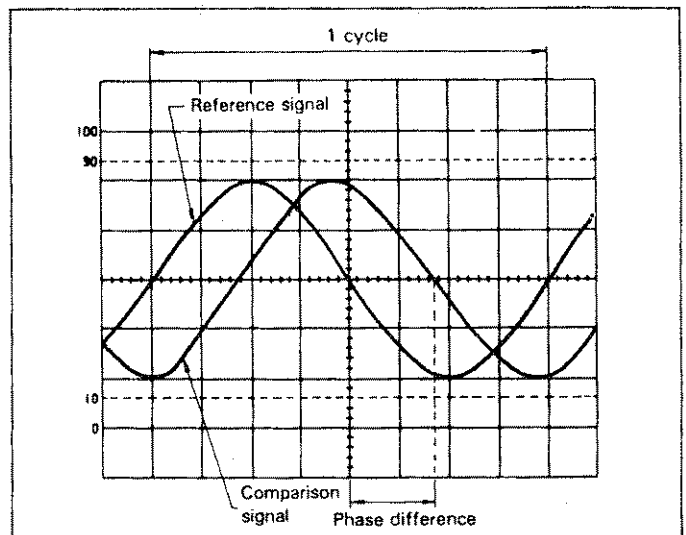

Fig. 15. Phase Difference Measurement.
(Refer to Fig. 15)
1. Apply the two signals to the **CH 1 (X)** and **CH 2 (Y)** input jacks.
3. Use the  $\updownarrow$  position controls to position the waveforms in the vertical center of the screen. Use the sweep **TIME/DIV** and **Var** controls to adjust the display so one cycle of the reference signal occupies 8 divisions horizontally (see Fig. 15). The **Trig Level** and  $\leftarrow \rightarrow$  position controls are also useful in achieving this display. The display should be as shown in Fig. 15, where one division now represents  $45^\circ$  in phase.
For the example shown in Fig. 15, the horizontal distance is 1.7 divisions. Thus, the phase difference is calculated as follows: